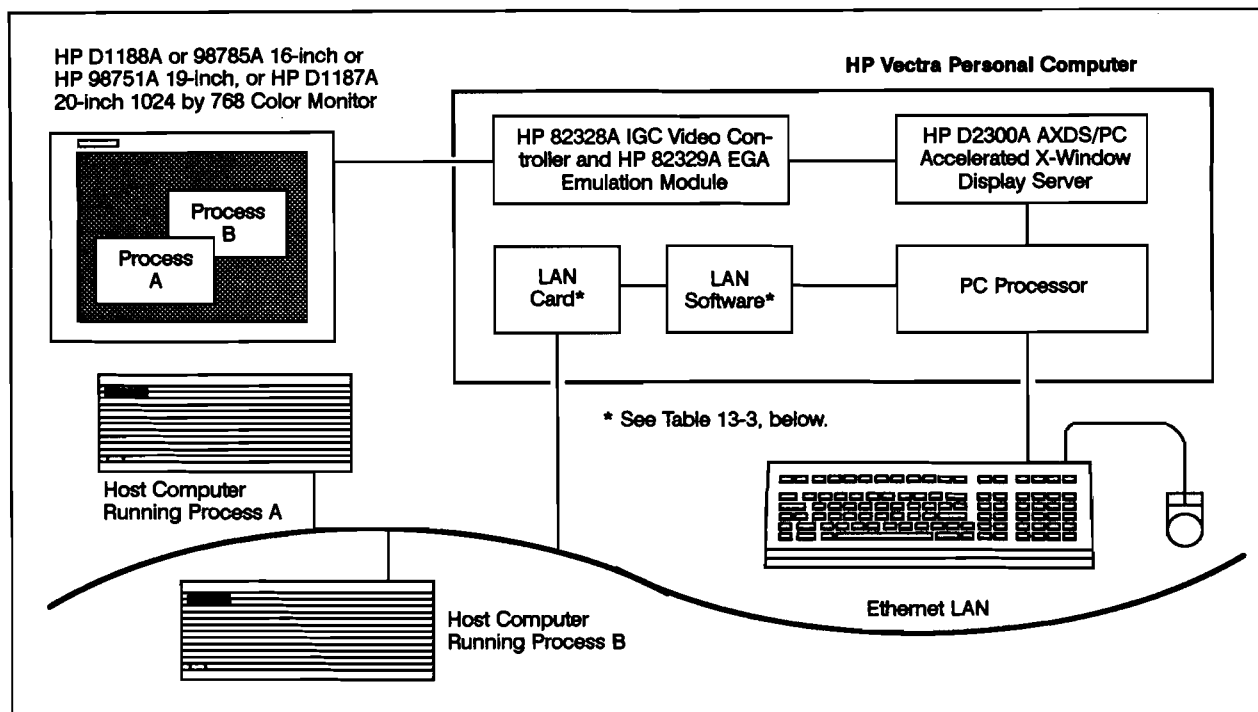

Figure 13-5. LAN-connected Accelerated X-Window Personal Computer
- LAN-connected X-Window PCs (see Figure 13-5 and Table 13-3, page 13-6).
Vectra CS, ES, QS, and RS family PCs with the HP 82328A Intelligent Graphics Controller (ICG) card can be equipped to access Series 300 or Series 800 Superworkstations or Servers via LAN connection. When equipped as summarized in Figure 13-5 and Table 13-3, on the next page, the PC functions as an X-Server displaying the results of X-Client processes on the LAN-connected host computers. Because the X-Window PC uses the Intelligent Graphics Controller card to execute the Accelerated X-Window Display Server/PC (AXDS/PC) software, performance is not limited by the RAM or type of processor in the PC. HP AXDS/PC has been designed to provide graphics performance equivalent to that of a 2 MIPS workstation configured as an X-Window display server. For more information, refer to the Accelerated X Window Display Server product brief and technical data, HP Literature Stock Numbers 5953-3765 and 5953-3767, or later revisions.